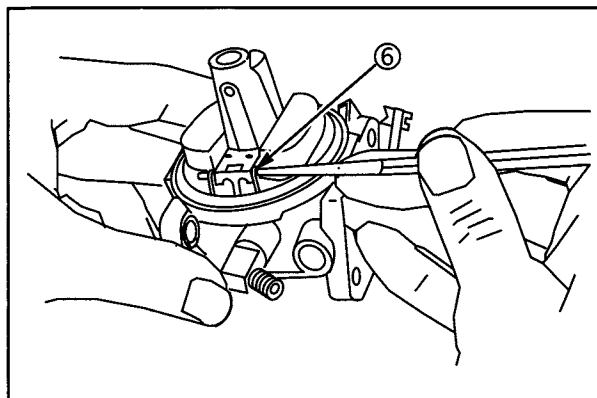

Fig. 24
3. Remove float hinge pin (6), float and inlet needle, **Fig. 24**.